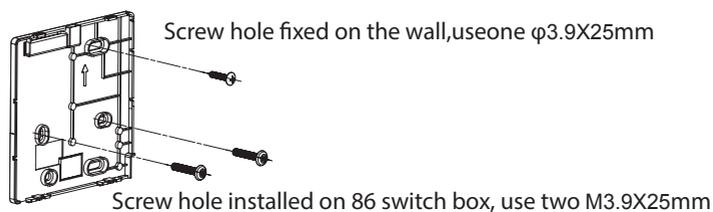

Fig 3-4
- Use two M4X25 screws to install the back cover on the 86 switch box, and use one M3.9X25 screw to fix to the wall. (Fig.3-4)